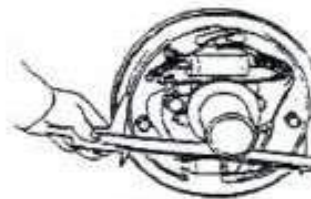
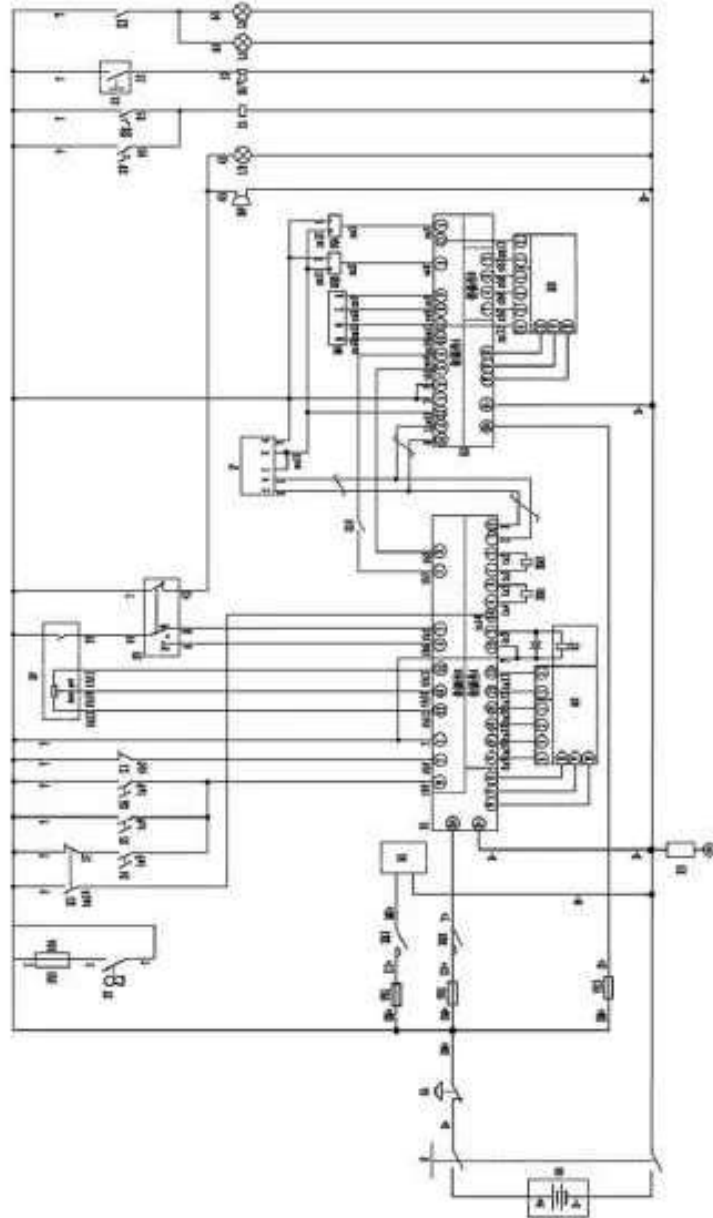
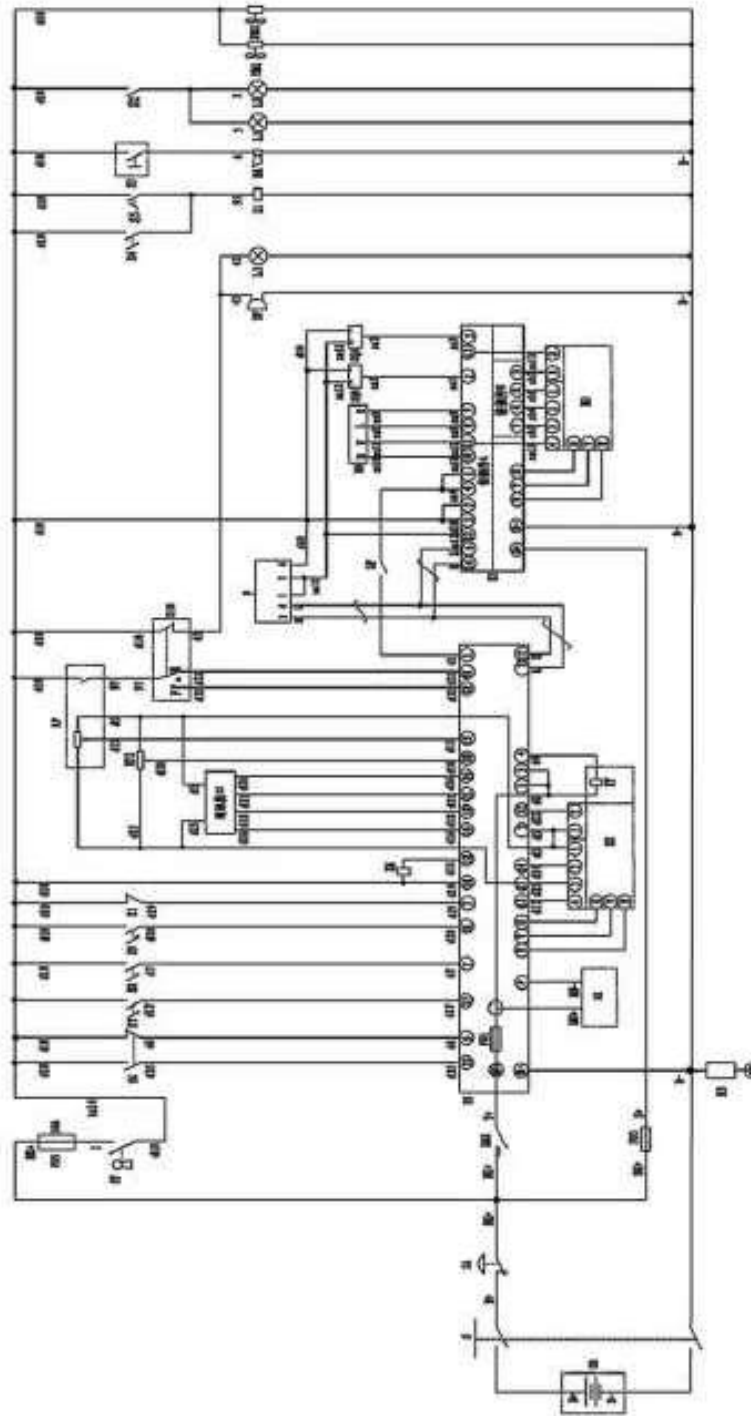

Figure 2-24
Figure 2-27 Schematic of electrical system of FE3R06-08
Figure 2-28 Schematic of electrical system FE3R06-12
- (8) Mount the brake shoe guide plate to the support pin, and then mount the return spring of the brake shoe. First install the main shoe and then install the auxiliary shoe. See figure 2-28
- (9) Mount the regulator, the regulator spring, ejector Pin, return spring of the ejector Pin. The following points shall be noted:
- (10) Connect the brake pipelines with the wheel cylinders.
- (11) Measure the inner diameter of brake drum and outer diameter of brake shoe, and then use the regulator to set the difference between inner diameter of brake drum and outer diameter of brake shoe at 0.3mm-0.5mm. See figure 2-24
The electrical system of FE3R06-12 three-wheel AC electric forklift is powered by an 80V battery and traction is enabled by the AC motor. The lifting force is generated in a way as follows: the DC motor drive pump to generate oil pressure, and then hydraulic pipes work on the hydraulic cylinders on both sides of the frame to achieve lifting of the fork. The lighting system is powered by a 24V voltage Schematic of electrical system See Figure 2-27 See Figure 2-28